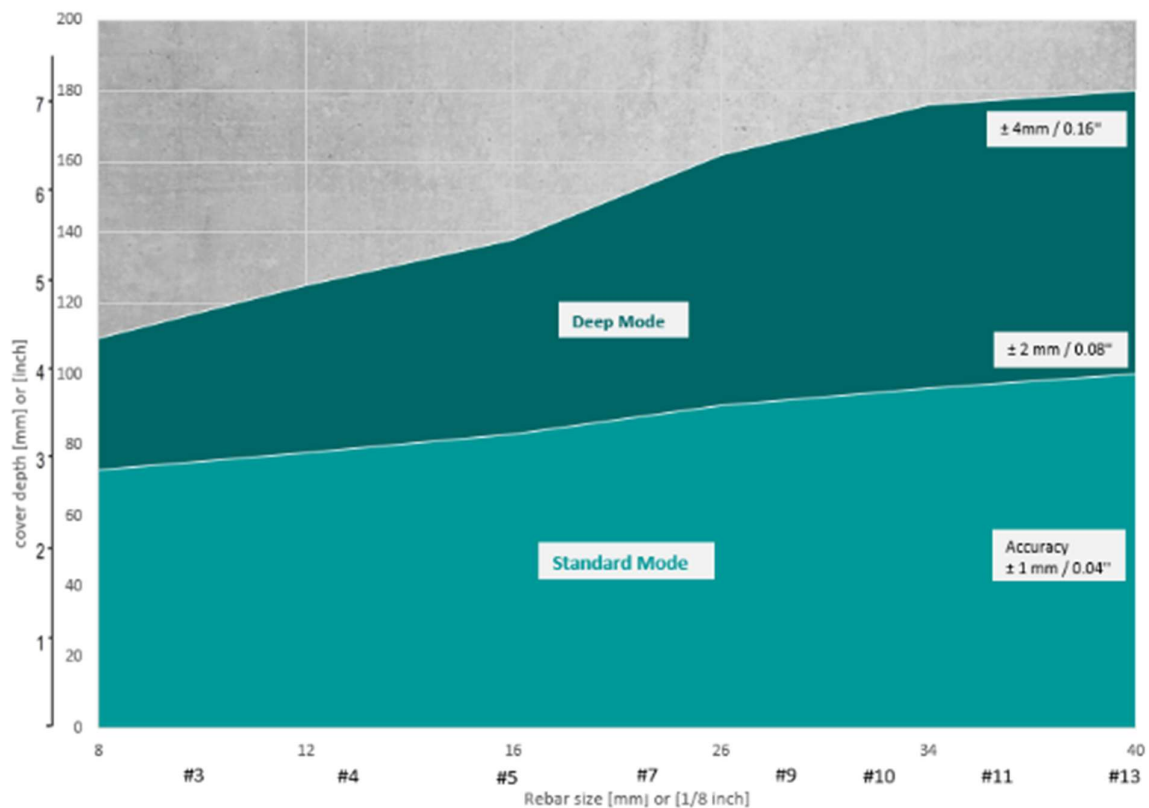

Figure 27: Measuring range without cart
- ❗ In deep mode, 180mm is the maximum depth limit for detection. Nevertheless, if the rebar diameter is known, the Figure 27 provides more precision on the maximum depth possible of detection following the rebar diameter.
However, 80mm limit is only an average depth limit. That is why if the rebar diameter is known, the Figure 27 provides more precision on the maximum depth possible following the rebar diameter.